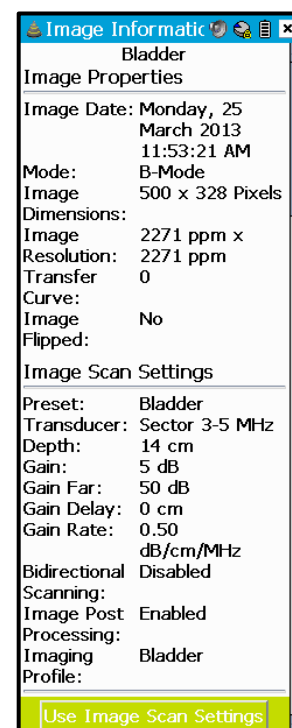

Fig 6.12 Image Information
- Choose **Image Information** (Fig 6.12) to find: